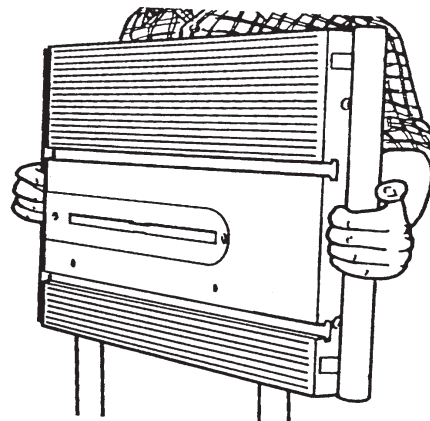

Figure C-90
7. Using your 5/32" Allen wrench, remove the Tie Bar Guard (155) that is attached to the Tie Bar underneath the worktable.
8. Dismount the worktable by loosening the table height lock and pulling the worktable straight up, as shown in figure C-90.